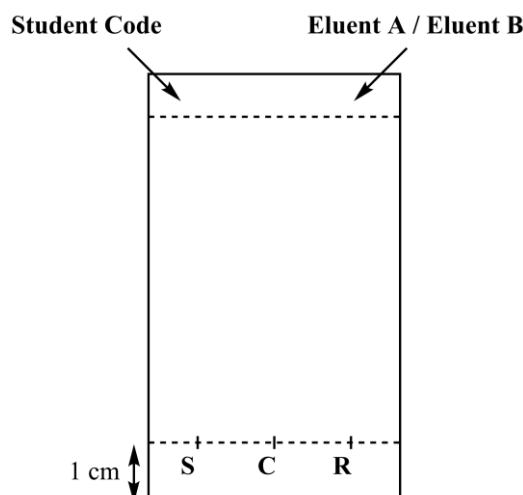

Figure 3. TLC plate preparation
3. Prepare your TLC plate. Use a pencil to draw carefully the start line (1 cm above the bottom of the plate) and mark the positions in order to spot the 3 samples. Label them **S** (Starting material), **C** (Crude product) and **R** (Recrystallized product), as described in Figure 3. On the top left of the plate, write your **Student Code**. On the top right of the plate, write the eluent you use (first **Eluent A**, then **Eluent B**). Spot the three samples on the plate, using capillary spotters.